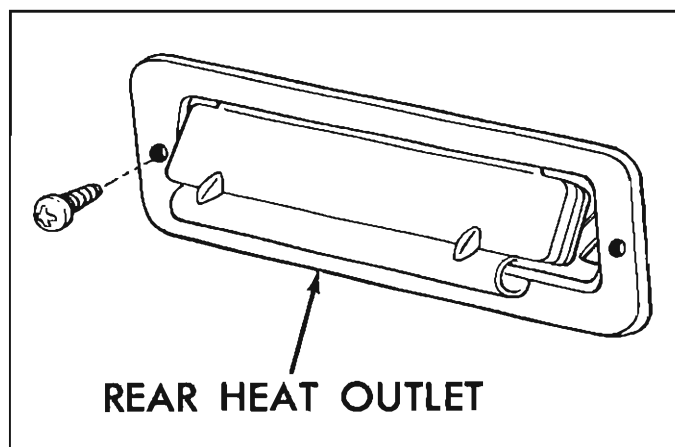

Fig. 11-2—Rear Seat Heat Outlet Door
- Rear seat heat outlets will have a manually operated shut-off door for 1962. Figure 11-2 illustrates the rear seat heat shut-off doors.
- Addition of the manual shut-off door over the rear seat heat outlets (fig. 11-2), plus improved heat duct components constitute the only Corvair 95 Direct Air Heater change for 1962.